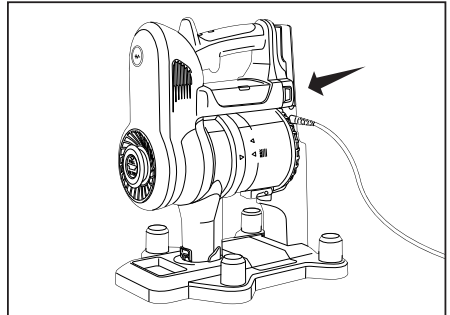

Fig. 2
1. Set the main body onto the Storage/Charging Station, ensuring the connection between points on body with Storage/Charging Station (Fig. 2).